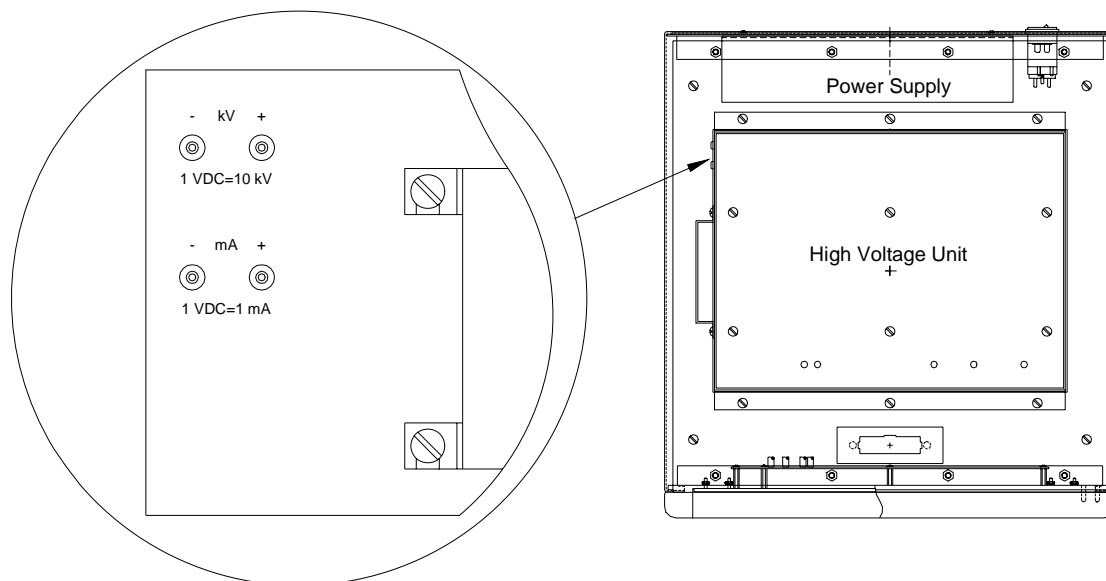

Figure 6-9. KV Calibration
1. Connect a digital voltmeter to the kV calibration points on the side of the high voltage unit as shown in Figure 6-9.